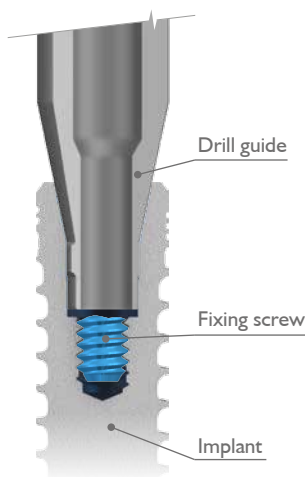
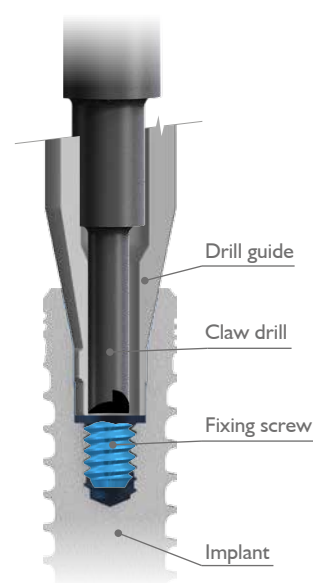

Fig. 4: BioniQ system – Insertion of the drill guide into the implant.
Fig. 5: BioniQ system – Unscrewing the broken screw using a claw drill.
Insert the drill guide (C) into the implant so that it is fully inserted into the hexagon (BioniQ) or octagon (IMPLADENT) of the implant (Fig. 4). Insert the claw drill (A) into the drill guide so that it touches the broken fixing screw (Fig. 5).